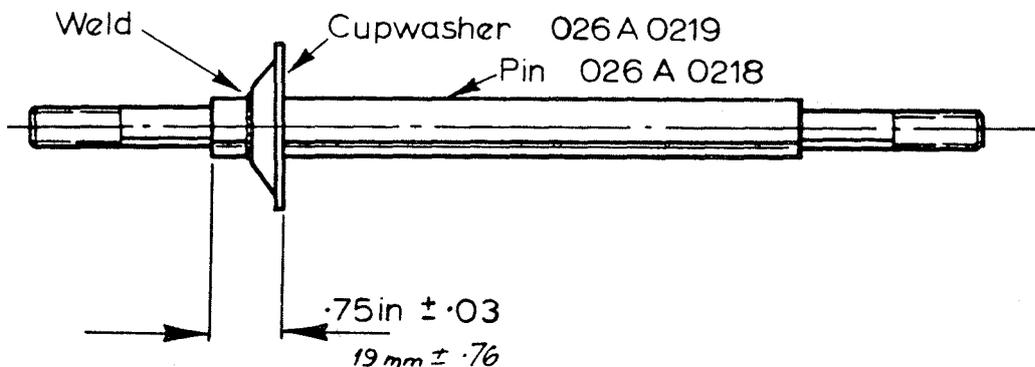

Fig.2. WELDING CUP WASHER TO PIN
6. Following the dimensions given in Fig. 2 and ensuring that the cupwasher (Part No. 026 A 0219) is vertical to the pin, weld one cupwasher in position on the new fulcrum pin (Part No. 026 A 0218), using ONLY a 'CO₂ Inert Gas' or 'Arc' welding process. The welding MUST be a CONTINUOUS WELD around the pin and to a high standard. The correct welding rod for the materials used MUST always be chosen. Remove all 'slag' after welding.